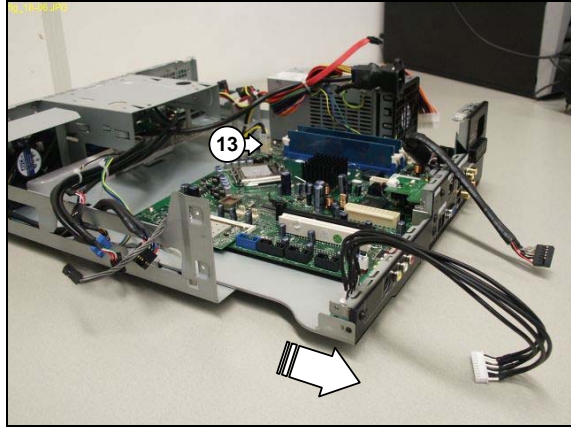

Figure 12.16-6
20. Slide the motherboard subassembly towards the rear of the chassis. See Figure 12.16-6.
21. Disconnect the PSU +12v cable (13) from the motherboard. See Figure 12.16-6.